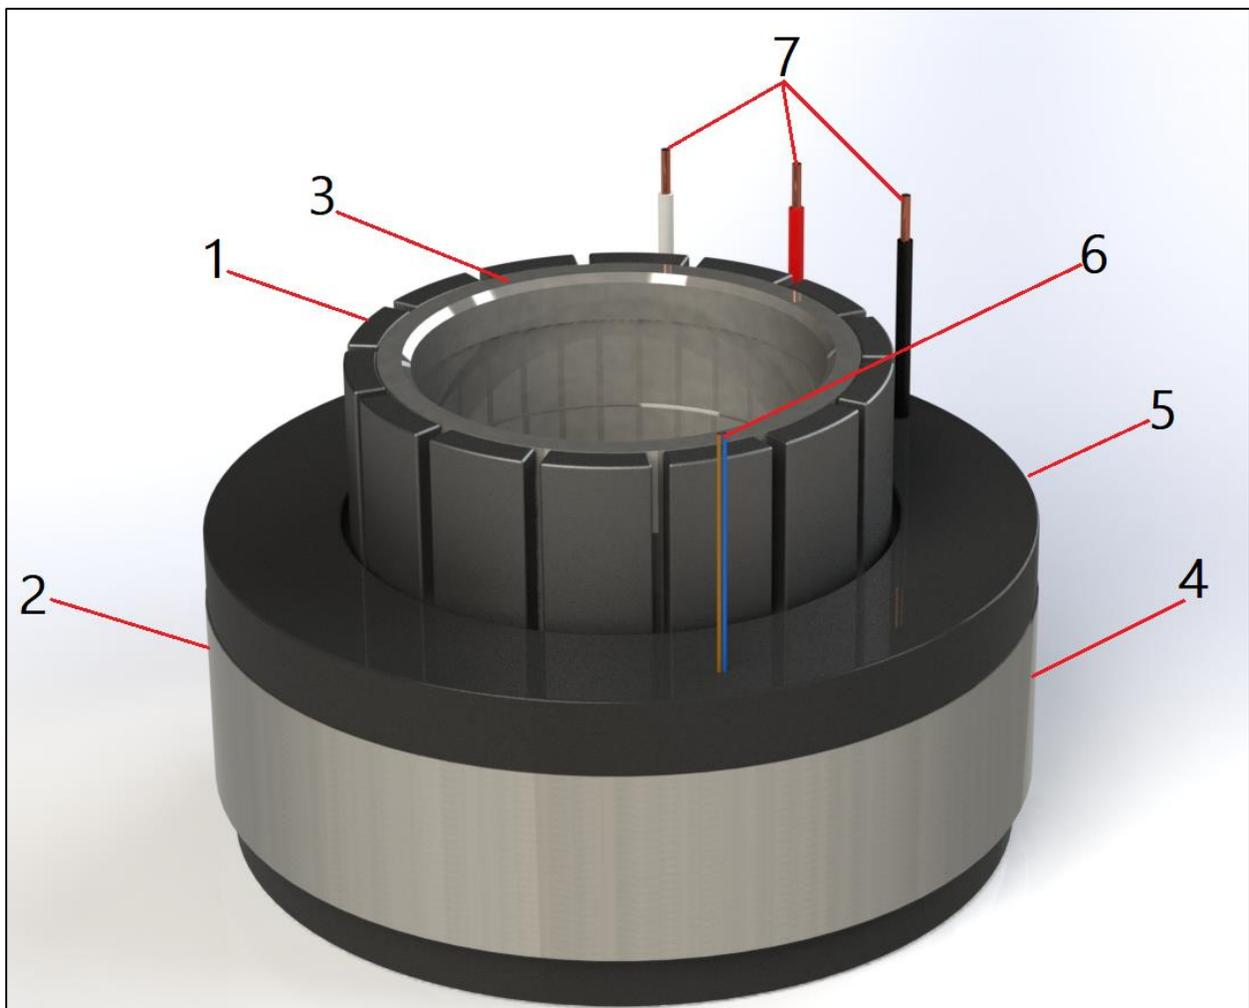

Figure 1-1: Rotor and stator assemblies with cable outputs
Using cable output (6) (see Figure 1-1), you can connect the thermistor to a controller. Based on the thermistor readings, the controller will cut the motor off in case the maximum temperature setting is exceeded.